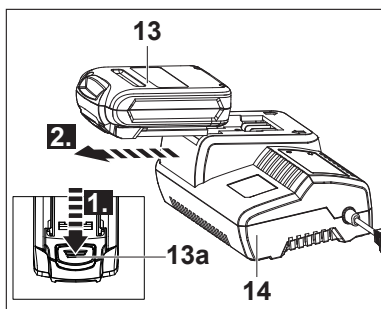

Fig. 5
3. After charging finished (this normally takes 1 hour, see below "Indicator lights" section for charging status), disconnect the charger (14) from power supply.
4. Press the release button (13a) and remove the battery pack (13) from the charger (14) (Fig. 5).